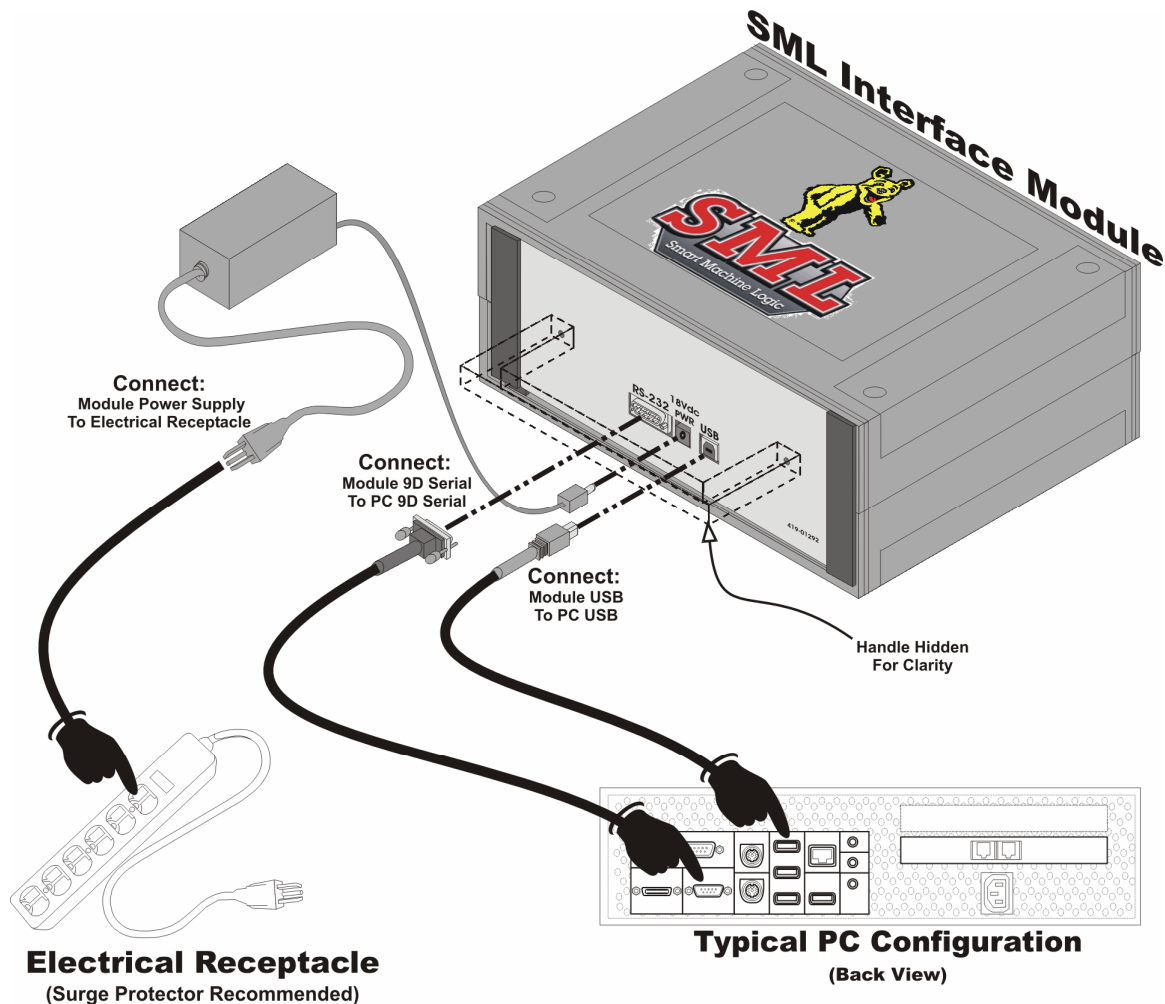

Figure 3-5. Interface Module Connections To A Standard PC
3.2.1 Using Figure 3-5 as a guide, use a Serial cable to connect the SML Interface Module to an RS232 (Serial) port on the back of the computer.